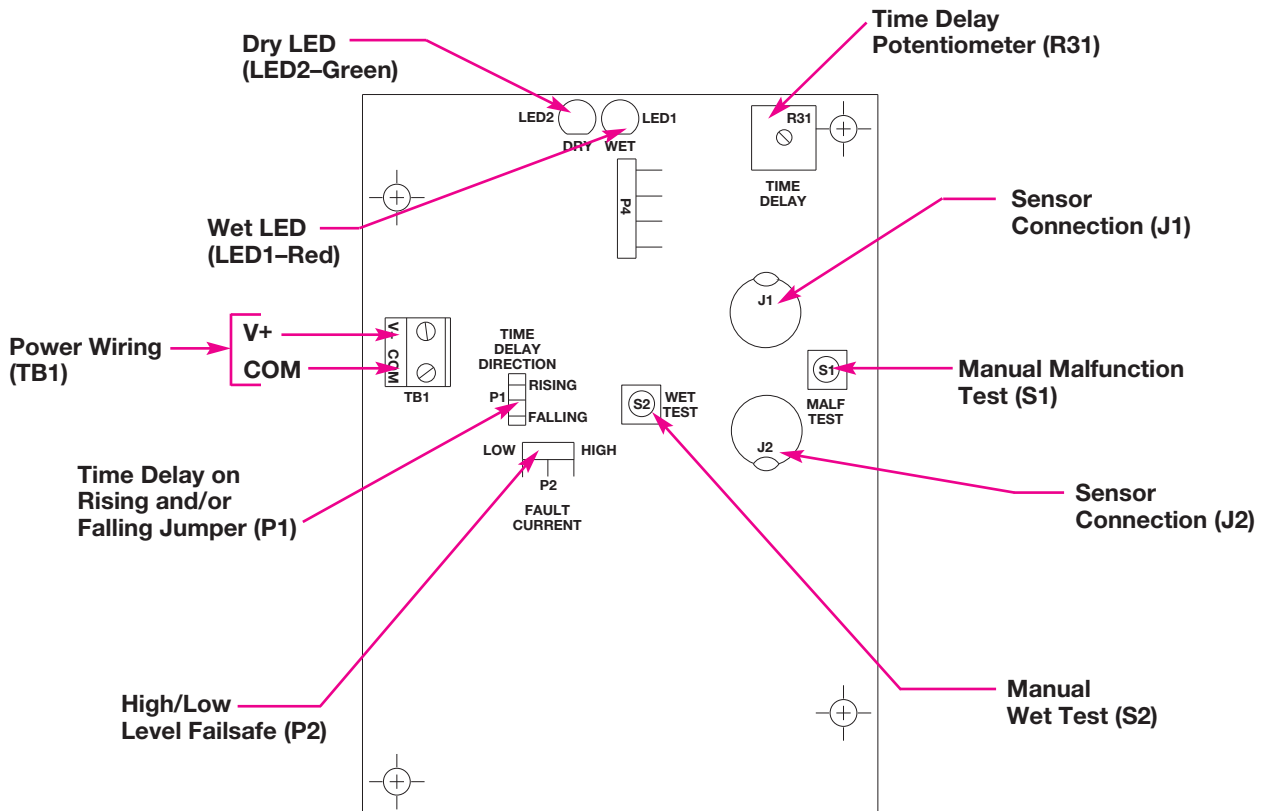

Figure 11
4. Connect power leads to proper terminals of TB1 on amplifier PC board as shown in Figure 11.
5. Select High/Low failsafe setting by placing jumper (P2) in desired position. For low level failsafe, position jumper between the middle pin and the pin next to the LOW mark on P2. For high level failsafe, position jumper between the middle pin and the pin next to the HIGH mark on P2. Refer to Figure 11.
5. Run power leads to power terminal strip on left side of PC board. Refer to Figure 11 on page 9.